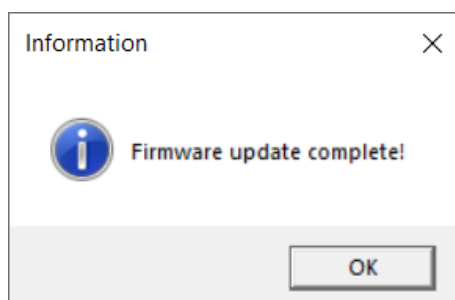

Figure 166. IO-Link FW Update Success Message
- update via IO-Link: Figure 166 shows the confirmation pop-up window for successful FW Update.